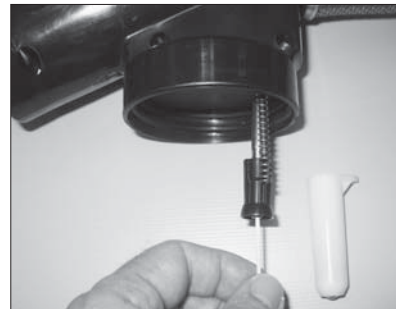

Figure 4
2.) Pump plugged.	2.1.) Insert a small wire or toothpick into hole at bottom of piston assembly to clear obstruction (See Figure 4). 2.2.) Replace pump assembly.